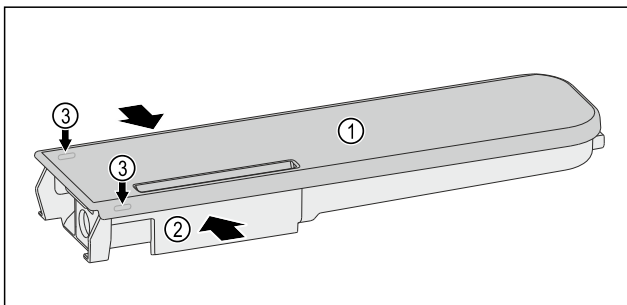

Fig. 231
- ▶ Push the water tanks Fig. 231 (2) together, leverage the cover Fig. 231 (1) carefully over the latching tabs Fig. 231 (3) and lift it up.
- ▶ Move the cover Fig. 231 (1) slightly forwards and back, and remove to the top.